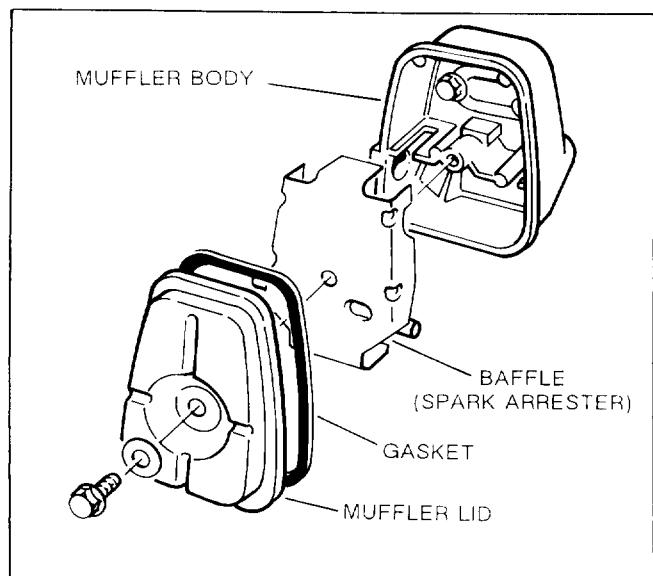

Figure 2
2. Remove screw securing muffler lid, gasket, and baffle to muffler body (Fig. 2).
3. Remove baffle from inside muffler body (Fig. 2).
4. Install new spark arrester baffle into muffler body (Fig. 2).
5. Make sure muffler gasket is still useable (replace, if necessary) (Fig. 2).
6. Install muffler lid and gasket to muffler body with screw previously removed (Fig. 2).